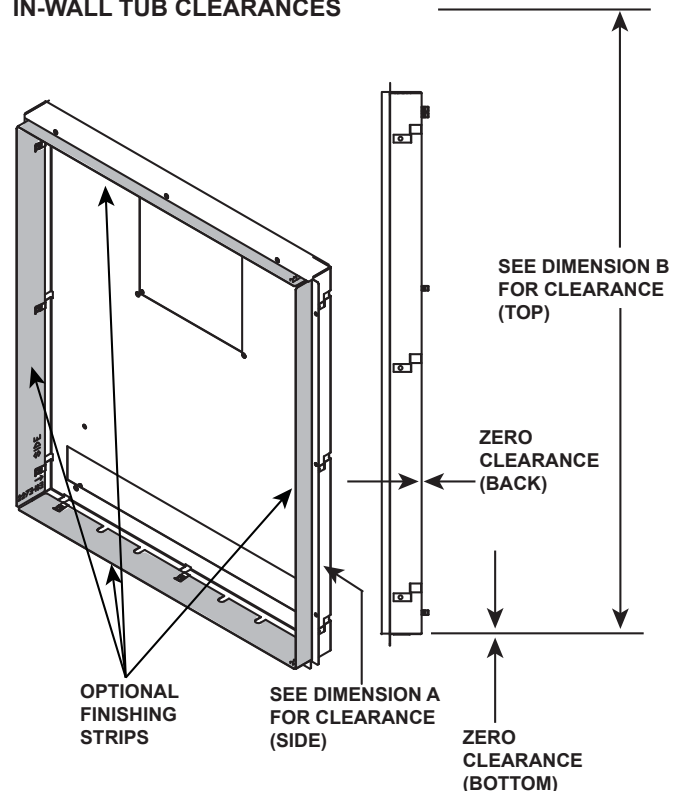

Figure 1. Framing Dimensions and In-Wall Tub - Clearances
1. Prepare 2 in. x 6 in. framing as shown in Figure 1.